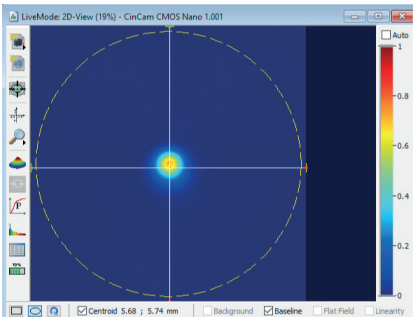

Figure 12. Centering beam position.
1. Move camera ~1200 mm from the laser output, center it and set current beam position as a reference point by placing crosshair over the center (fig. 12).